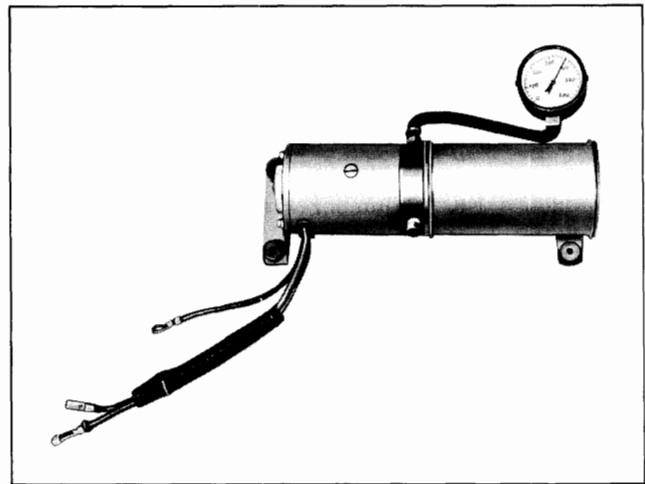

Fig. 21-54 Checking Pump Pressure
2. Install plug in one port, and pressure gauge in port to be checked (see Fig. 21-54).